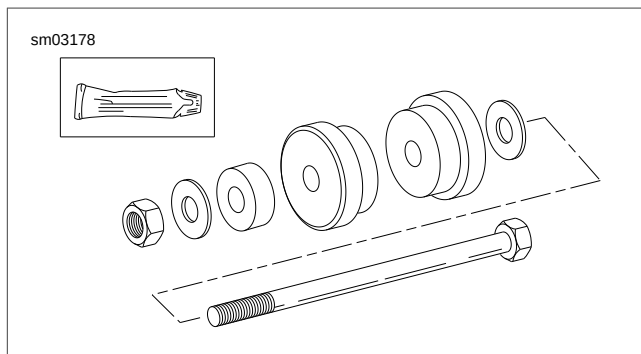

Figure 2-122. Steering Head Bearing Race Installer (HD-39302)
2. See Figure 2-122. Assemble STEERING HEAD BEARING RACE INSTALLER (Part No. HD-39302) and bearing races on tool's draw down bolt through steering head. Position races so lettered edges are at bottom of steering head bore in steering head.